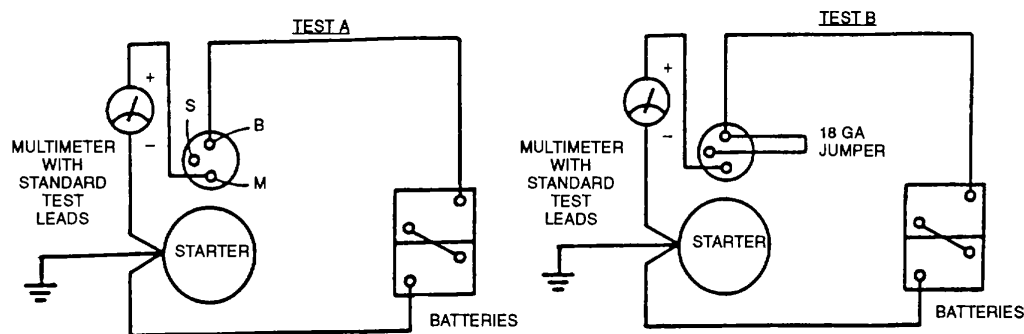

FIGURE 3-32. Starter Solenoid Test Circuit
- Set multimeter for DC volts, and connect as shown in FIGURE 3-32, Test A. If voltage is indicated solenoid is defective.
- Momentarily connect a jumper as shown in FIGURE 3-32, Test B. Multimeter should indicate battery voltage and starter should crank the engine. If multimeter does not read battery voltage, the solenoid is defective. If multimeter indicates battery voltage, but starter does not operate, starter is defective.